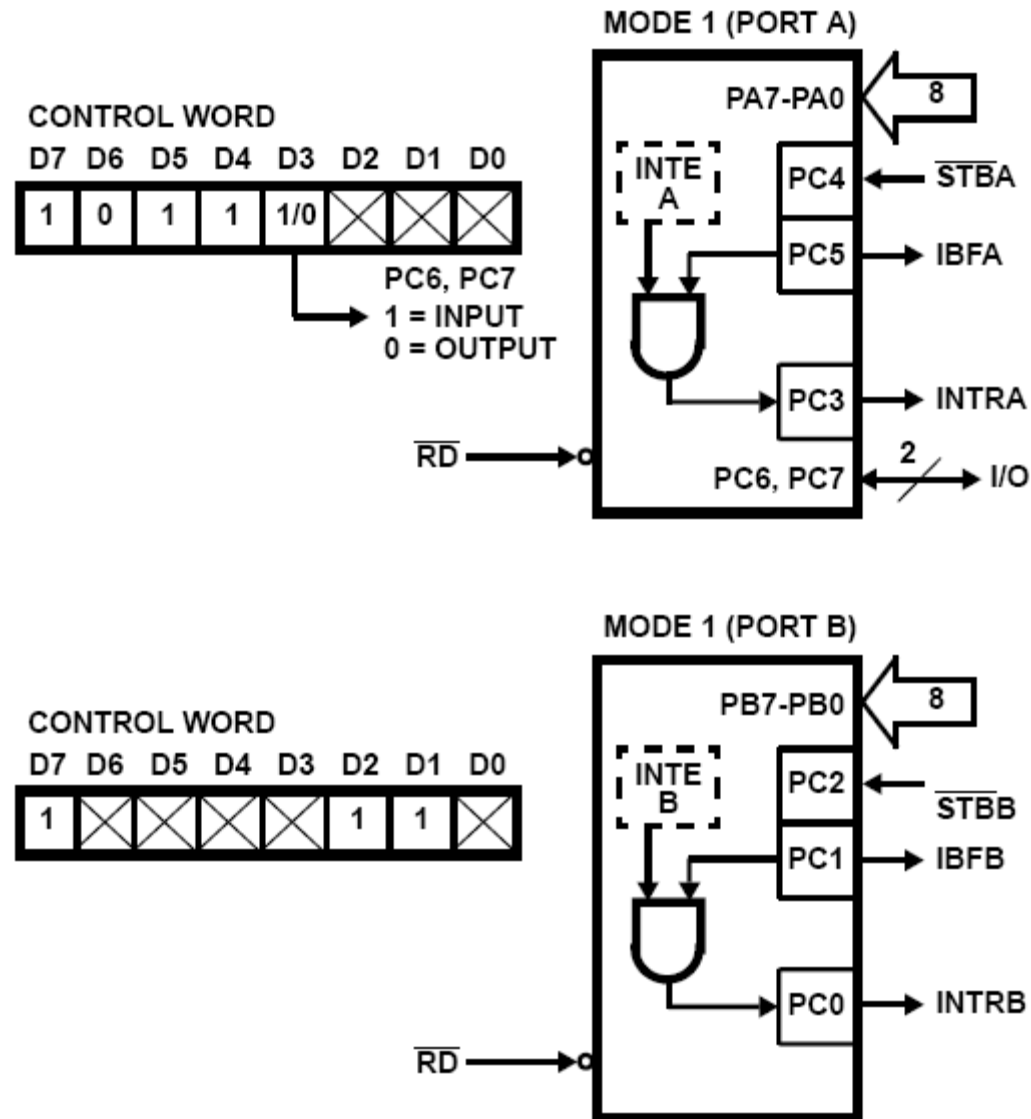

Figure 7: Mode 1 input.
- Figure 7 shows the control signals for input configuration.